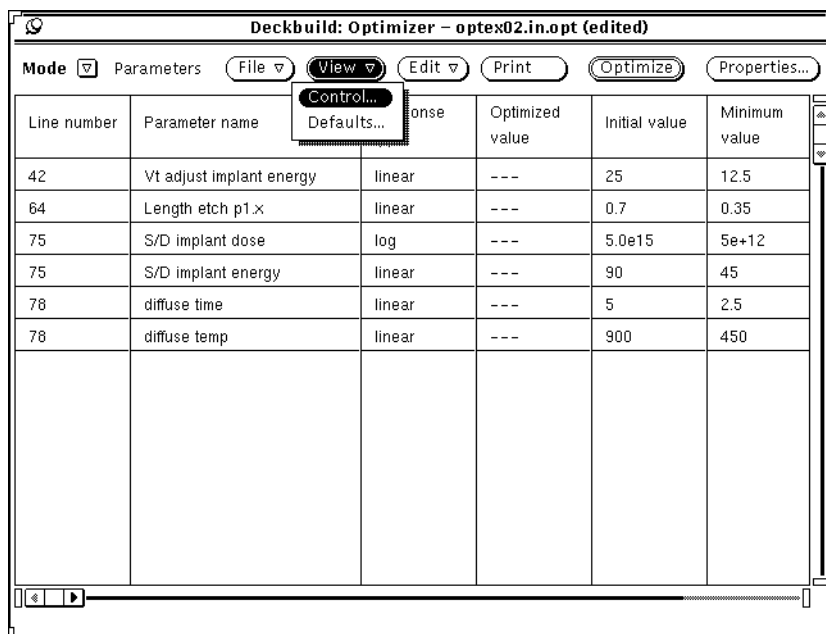
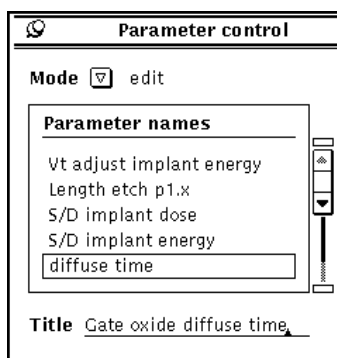

Figure 6-8: Parameter View Menu
Figure 6-9: Parameter Control Popup, Edit Mode
1. Choose **View→Control...** (Figure 6-8) and the **Parameter control** popup will appear (Figure 6-9).